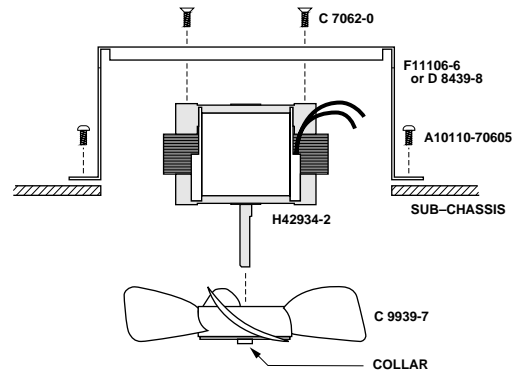

Fig. 8.3 Cooling Fan Assembly
4. Attach the fan motor to its bracket using the two flat head screws supplied in the kit (Figure 8.3). A phillips screwdriver is required.
5. Push the fan blade on the motor shaft until the shaft end is flush with the collar (Figure 8.3). The fan blades should be positioned so the collar faces away from the fan motor.